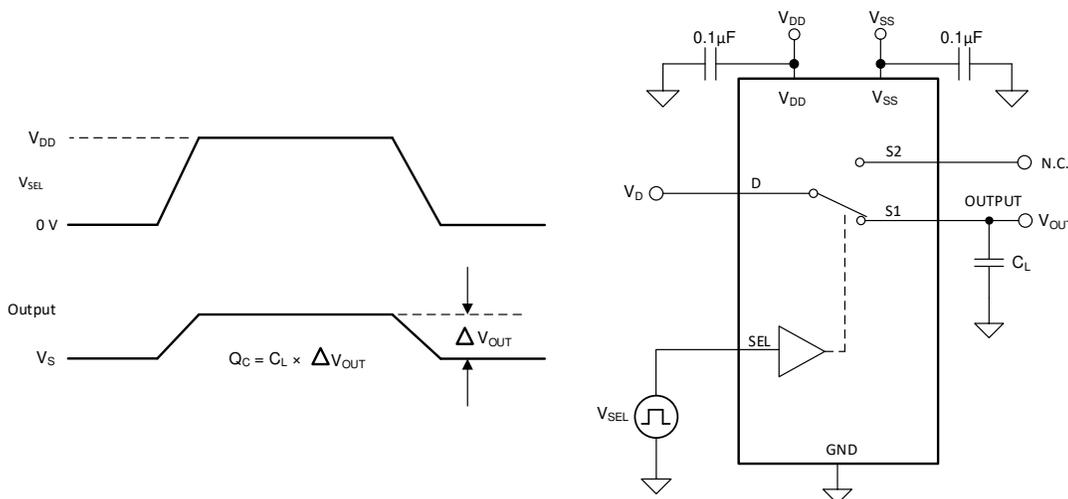

Figure 12. Charge-Injection Measurement Setup
The TMUX1237 has a transmission-gate topology. Any mismatch in capacitance between the NMOS and PMOS transistors results in a charge injected into the drain or source during the falling or rising edge of the gate signal. The amount of charge injected into the source or drain of the device is known as charge injection, and is denoted by the symbol  $Q_C$ . Figure 12 shows the setup used to measure charge injection from Drain (D) to Source (Sx).